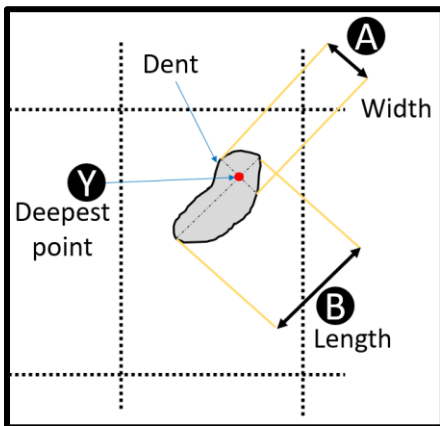

Figure 5
- After marking the periphery of the dent, connect the dots to obtain the complete outline of the dent edge. (Figure 5)
- Using the ruler and marker, draw a straight line down the longest cross-section of the dent, determined by its edge. (Figure 5). This is the length of the dent.
- Measure the length (B = Length of dent). (Figure 5)
- This line should start and end on the edge of the dent. (Figure 5). This is the width of the dent (A = Width of dent)
- Measure the width (A)